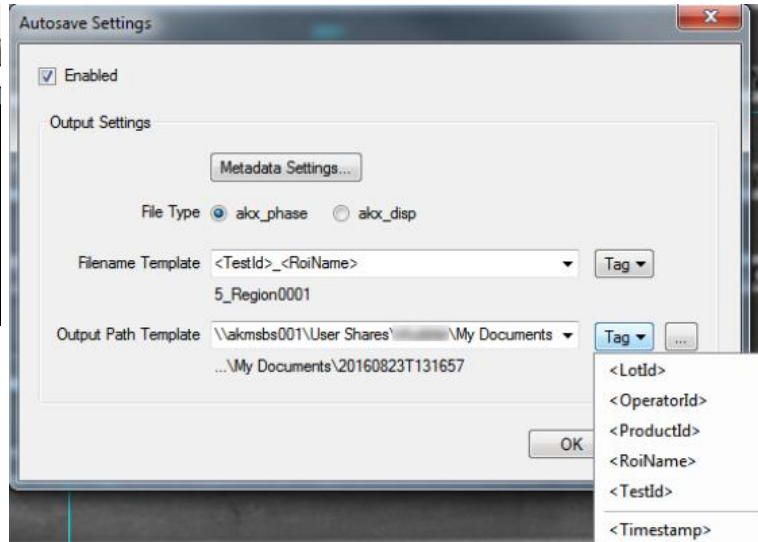

Figure 2.25 Autosave Settings
- **Autosave Settings** – Allows the user to control autosave settings for phase measurements acquired in this program. Metadata settings can be used to populate filenames, as shown in **Figure 2.25**. See **Appendix A.1.1** for available Metadata fields.